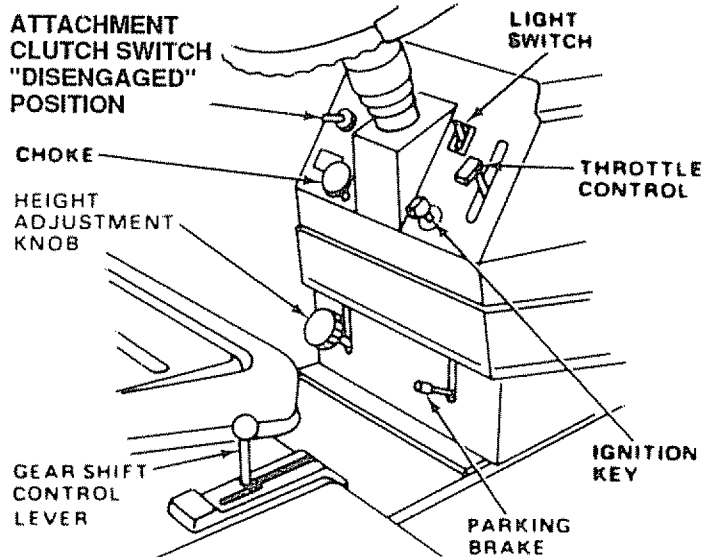

FIGURE 15
- Move gear shift lever to "NEUTRAL" position (Fig. 15).
- Place attachment clutch switch in "DISENGAGED" position (Fig. 15).
- Move throttle control to "S" (slow) position (Fig. 15).
- Turn ignition key to "OFF" position (Fig. 15)
- Place attachment clutch switch in "disengaged" position (Fig 15)
- Place gear shift lever in "NEUTRAL" position (Fig 15)
- Pull choke out (Fig 15)
- Move throttle control to middle position (Fig 15)
- a Select desired height of cut position using height adjustment knob (Fig 15)